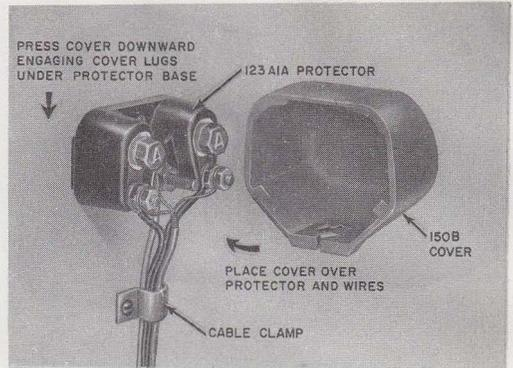
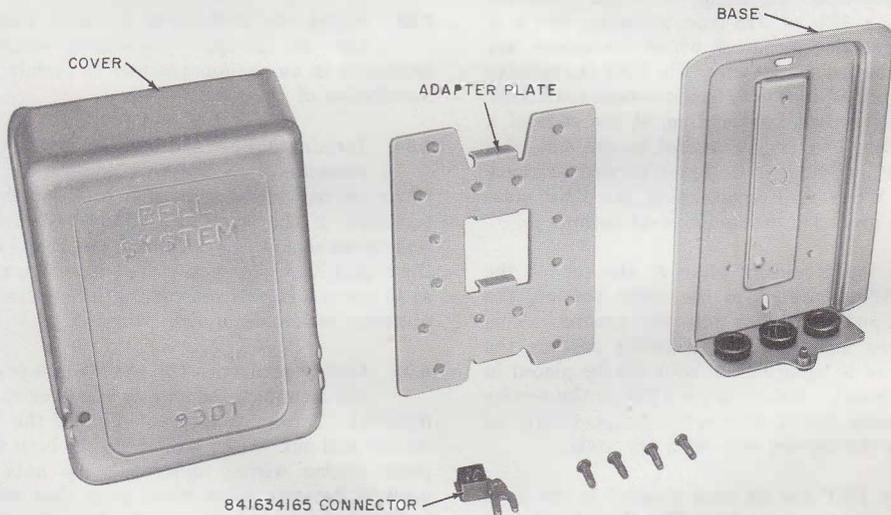
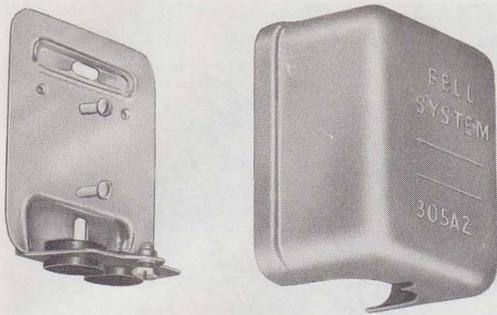
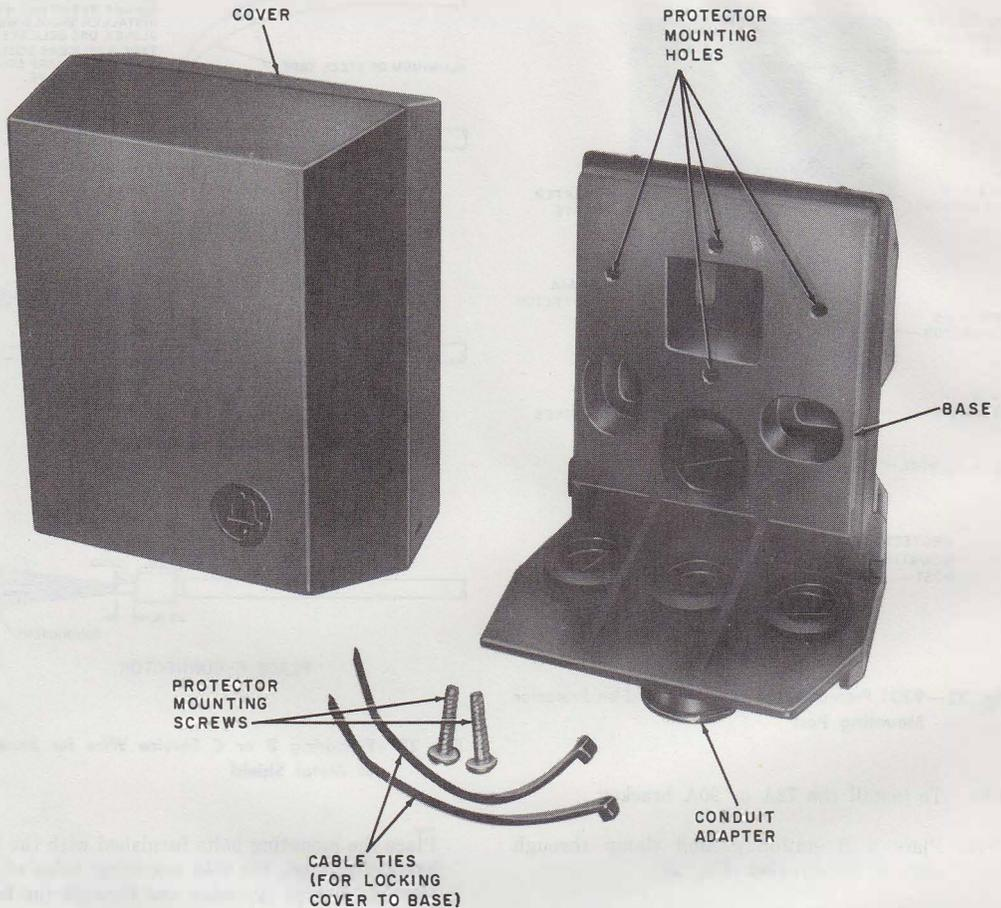

Fig. 18—150B Cover
Fig. 19—93D1 Protector Mounting
Fig. 20—305A2 Protector Mounting
Fig. 21 — **Customer Service Closure**
3.26 Where the 123- or 128-type protectors are installed outside, a 150B cover (Fig. 18) is installed over the protector, or the protectors may be housed in a 93D1 (Fig. 19), a 305A2 (Fig. 20) protector mounting, or a B customer service closure (Fig. 21). The 150B cover may be used to cover protectors installed indoors when a protective covering is required.